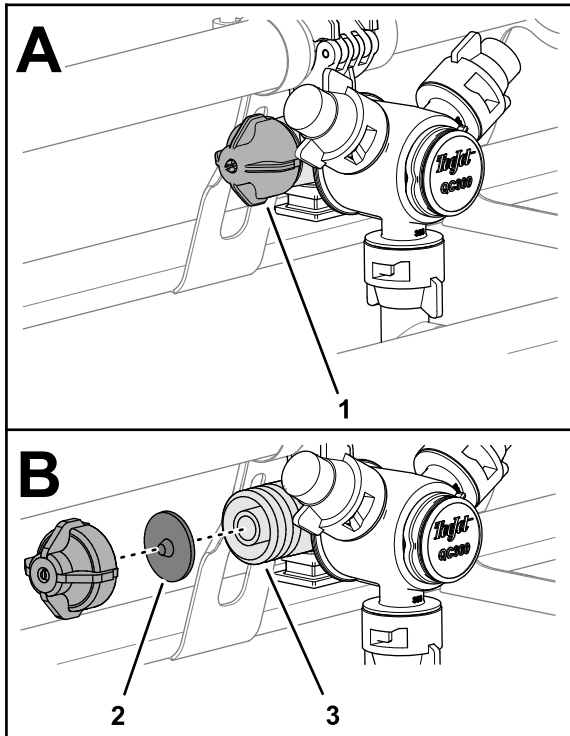

Figure 32
1. Rotate the diaphragm cap counterclockwise and remove the cap from the nozzle body (Figure 32).
2. Remove the check-valve diaphragm from the cap or nozzle body (Figure 32).
3. Clean the cap, diaphragm, and nozzle body with clean water (Figure 32).
4. Assemble the diaphragm into the cap with the nib of the diaphragm toward the cap (Figure 32).
5. Assemble the cap and diaphragm to the nozzle body and tighten by hand (Figure 32).